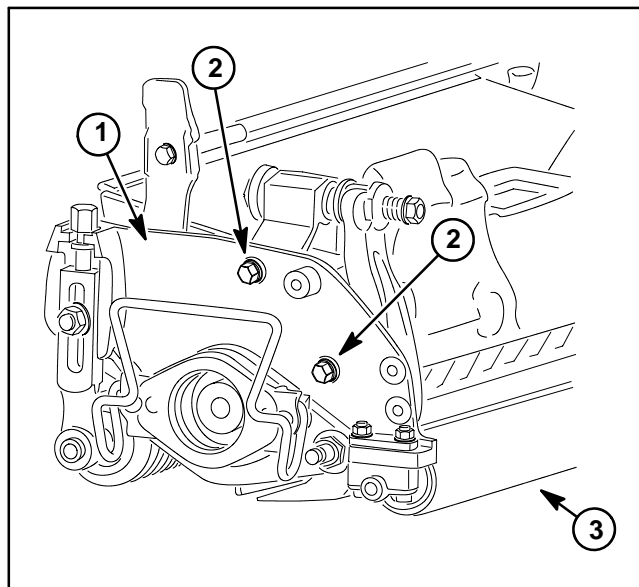

Figure 10
4. Loosen, but do not remove, the two (2) shoulder bolts that secure the side plate to the frame opposite the side that is not level (Fig. 10).